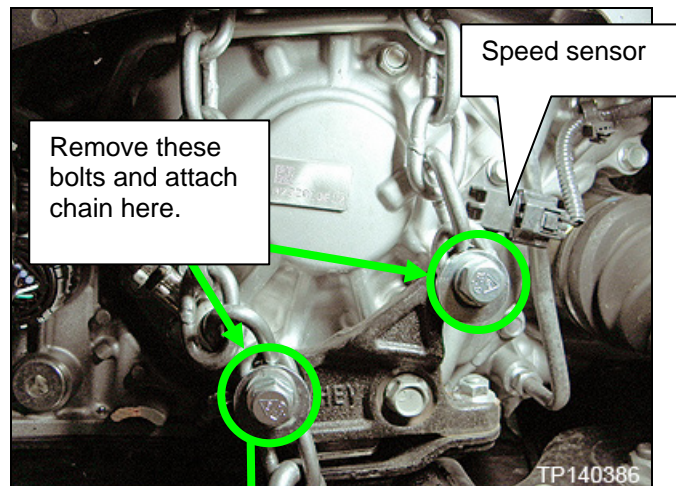

Figure 20
28. Remove two 16 mm bolts from the Engine Mount Insulator Bracket (Figure 20).
29. Attach a chain to the CVT as shown in Figure 20.